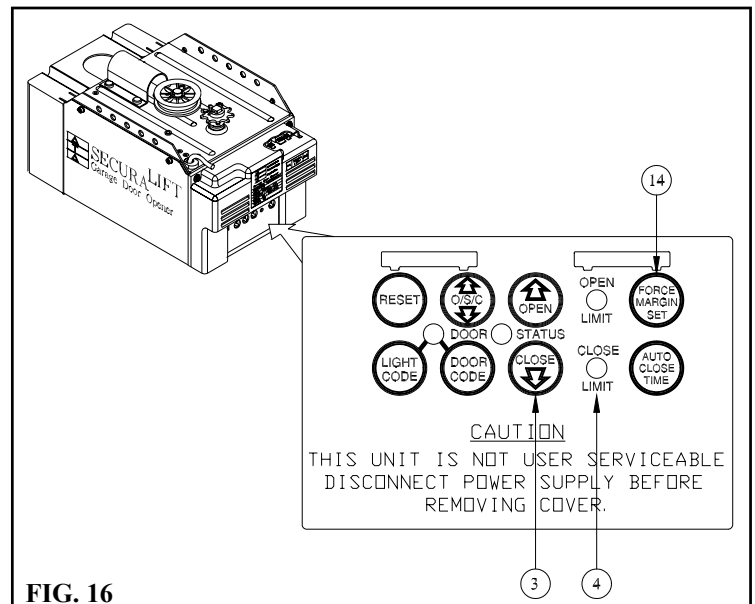

FIG. 16
1. Press and hold down the close button 3 (FIG. 16), to move the door to the fully closed position. Check that the RED LED 4 is steady ON, to confirm the door is set on the closed limit position
2. Press the Reset button 6 (FIG. 16) for two seconds, the door should start opening. As soon as the door reach's the fully open position it will pause momentarily then start to close.